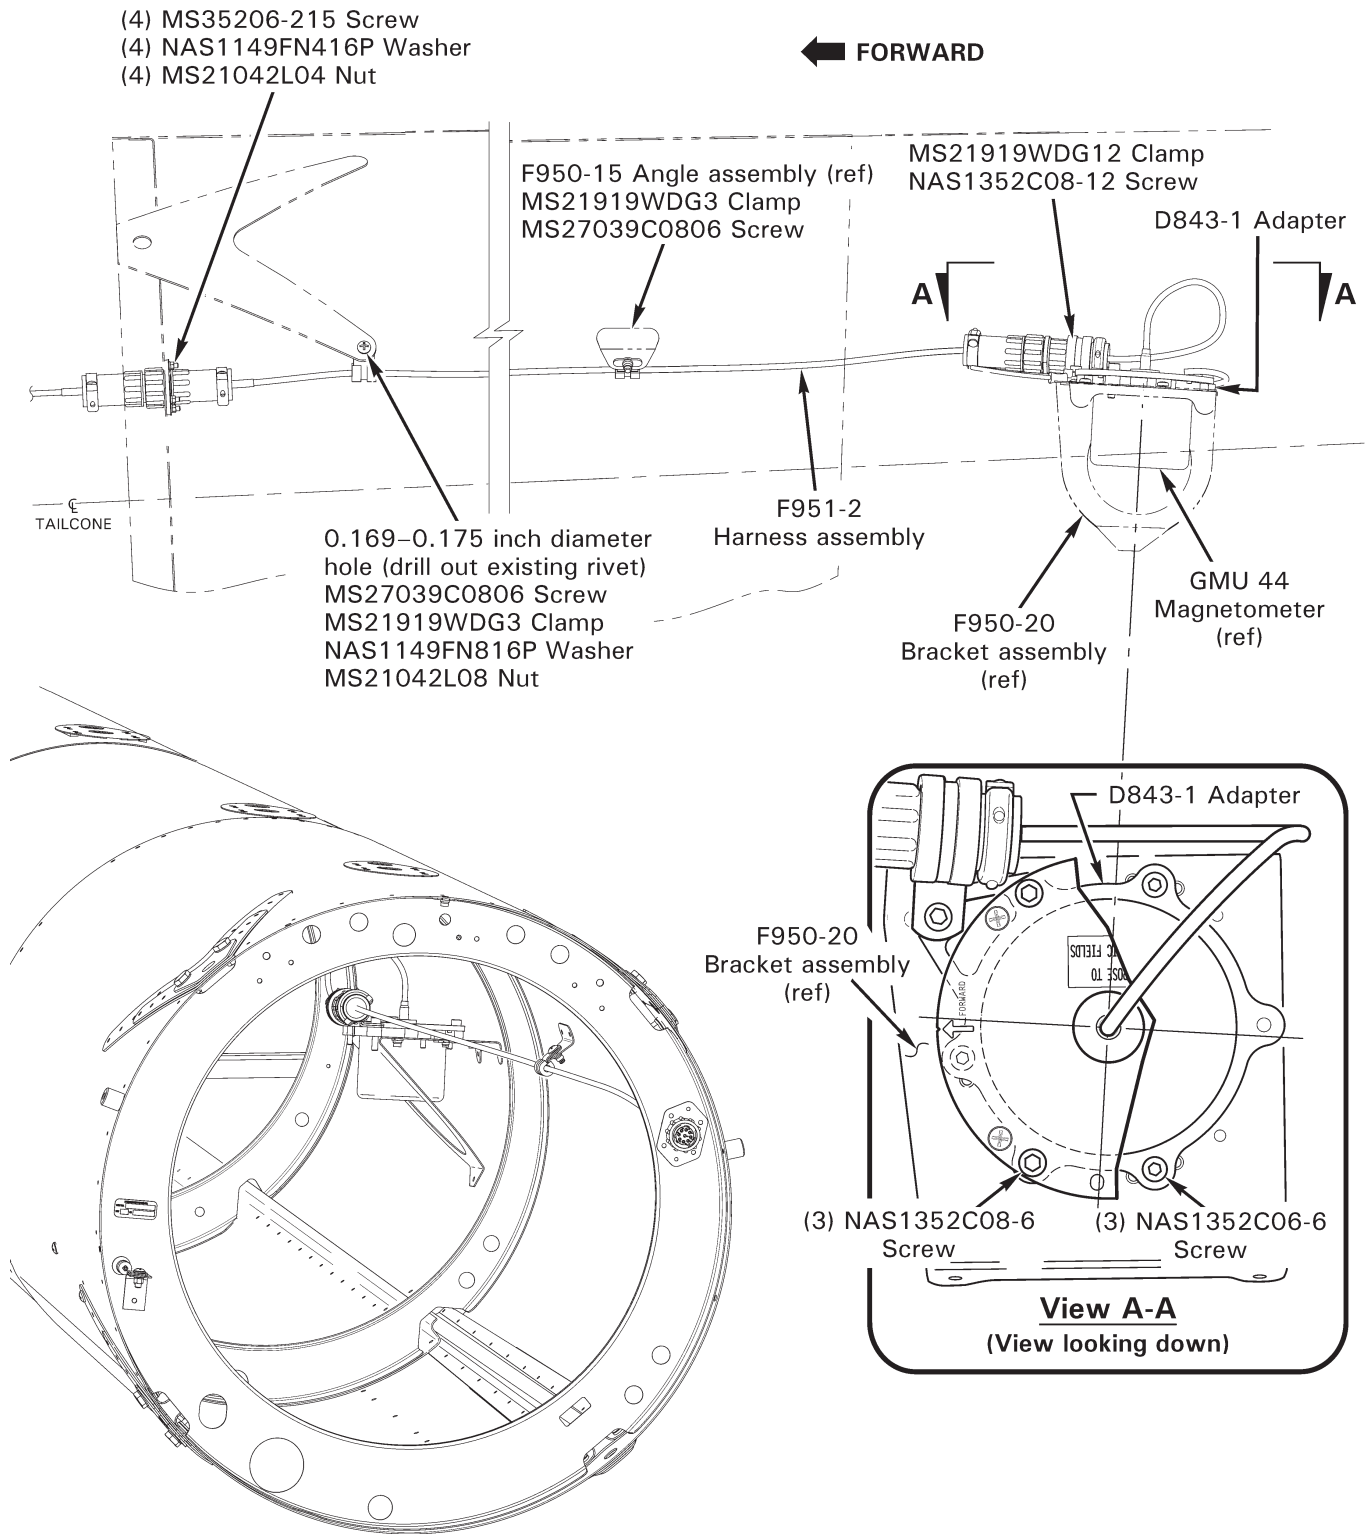

FIGURE 3 D843-1 Adapter and magnetometer installation
5. Refer to Figure 3. Install D843-1 adapter onto F950-20 bracket assembly using (3) NAS1352C06-6 screws. Position magnetometer on adapter so marked arrow on top points to front of tailcone. Secure GMU 44 magnetometer to adapter using (3) NAS1352C08-6 screws.
6. Drill out existing rivet as shown. Drill (1) .169-.175 inch diameter hole in newly vacated rivet hole. Deburr hole and clean up debris.
8. Position (2) MS21919WDG3 clamps around cable harness and route harness forward. Secure clamps to tailcone, and harness connector to D070 bulkhead at newly installed doubler, using hardware as shown.